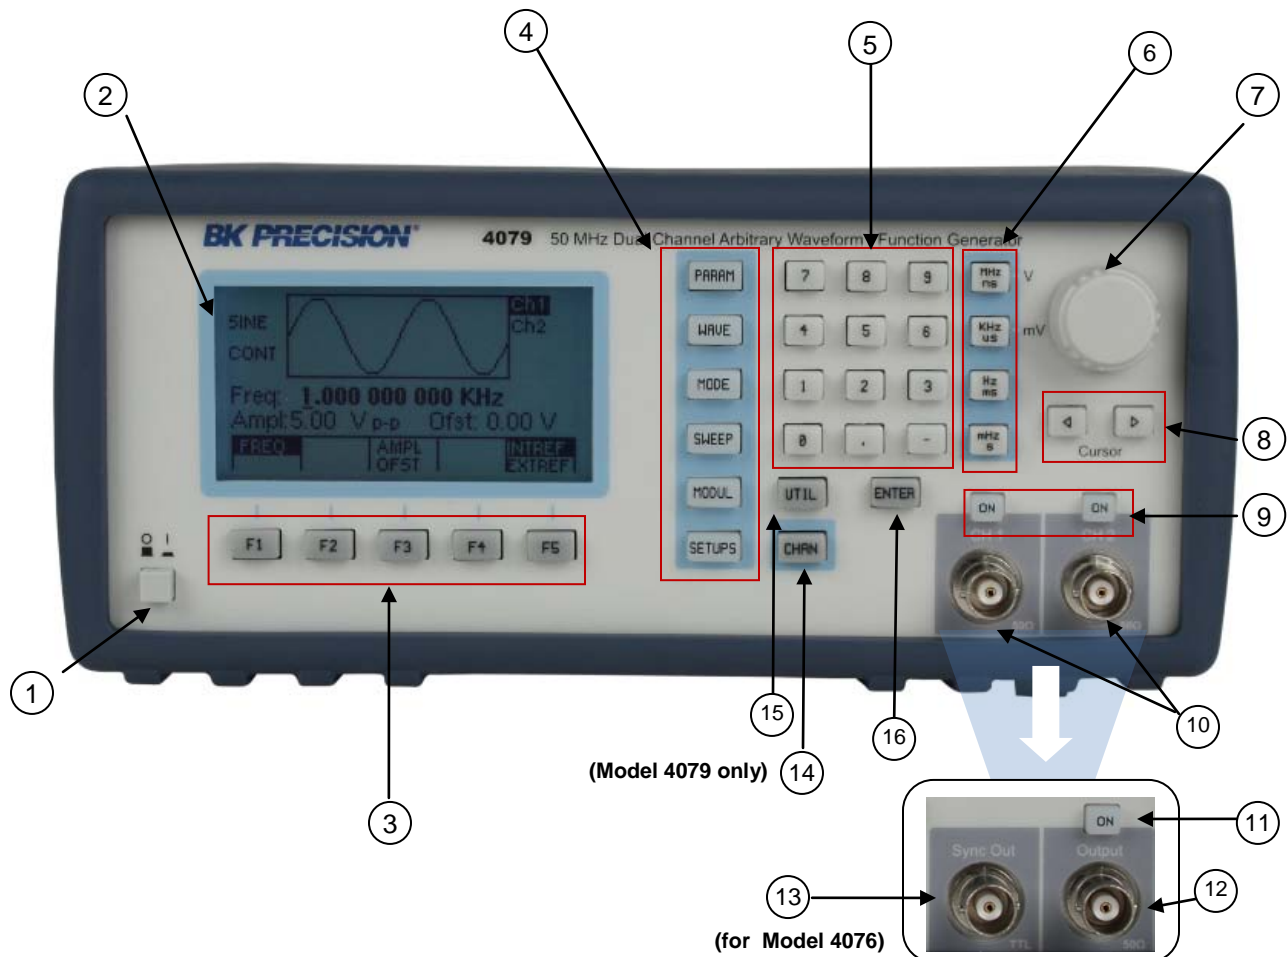

Figure 3.1 - Front Panel View
The front-panel controls select, display, and change parameter, function, and mode settings. They also include the keys you use to program and generate arbitrary waveform output. ***Refer to Figure 3.1.*** Use the rotary input knob and the cursor movement keys to enter data into the waveform generator.
2. **CH1 Sync** - This is the sync output of channel one. For model 4076 the sync output is in the front panel of the instrument (see Figure 3.1).
4. **CH2 Sync** - This is the sync output of channel two. For model 4076 the sync output is in the front panel of the instrument (see Figure 3.1).